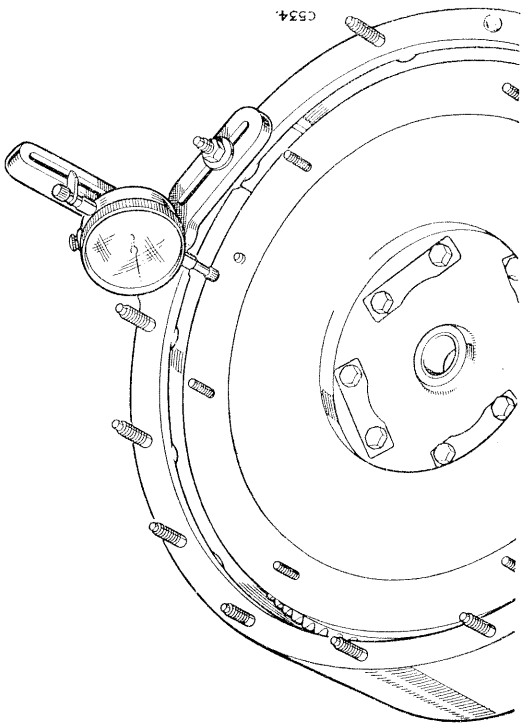

Fig. A-48—Checking run-out on flywheel face
3. Check the run-out on flywheel face as illustrated in Fig. A-48. The run-out on flywheel face must not exceed .002 in. (0,050 mm).